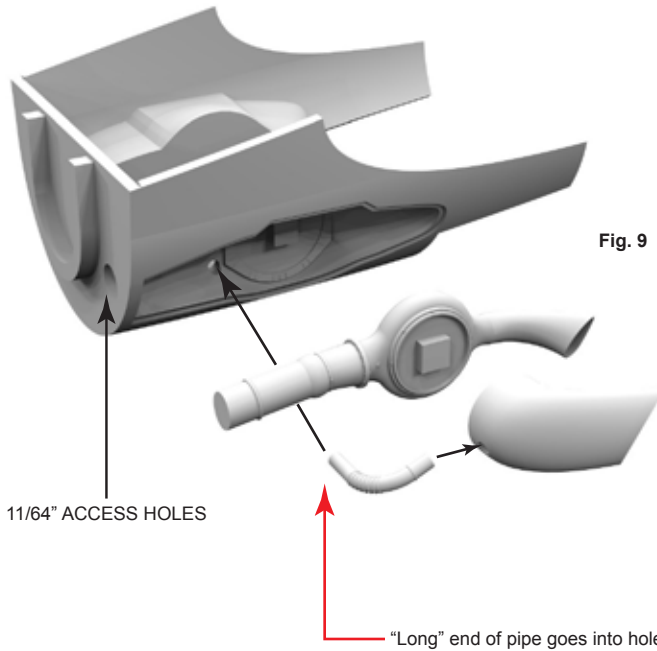

Fig. 9
2. Assemble nacelle/turbosupercharger units as shown (see Fig. 9). Please note that there is a left and right version of each turbo component shown. **Note: It is recommended to install the turbo parts after the nacelles are attached to the wings.**